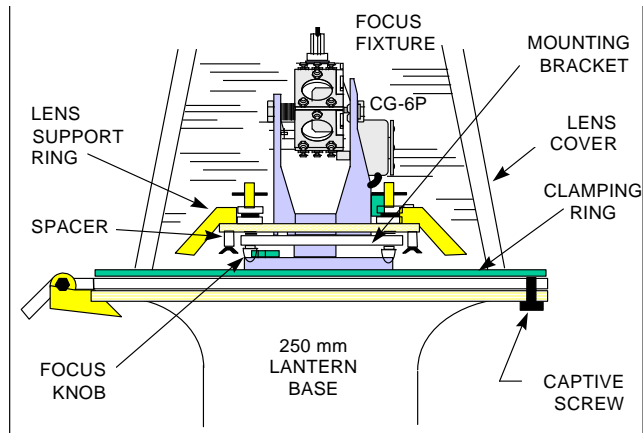

Figure 3-16
- n. Install assembly into lantern by lining up slots with studs in the lantern ring. Insert, rotate and secure wing nuts to secure. **Note:** Mount lampchanger/flasher bracket flush against the arms with the spacers on the studs between the wing nuts and bracket, as shown in Figure 3-16.
- a. Loosen (do not remove) all screws on the lens cover clamping ring. See Figure 3-16.